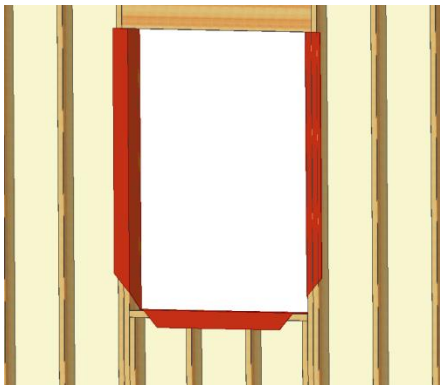

Fig. 3
- F. Fold back the WRB on the sides and sill toward the interior and staple into place. (Fig. 3)